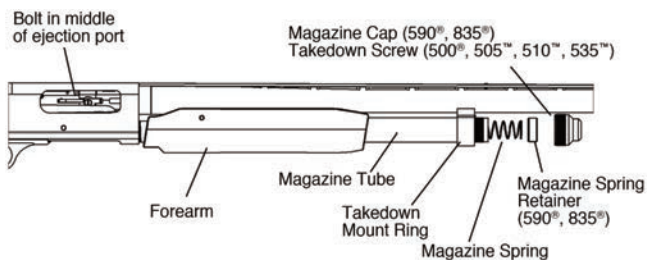

Fig. 10
**590® and 835® Models:** Unscrew the magazine cap by turning it counterclockwise (Fig. 10).
Loosen the takedown screw by turning it counterclockwise until the screw threads are completely disengaged from the end of the magazine tube (Fig. 10).